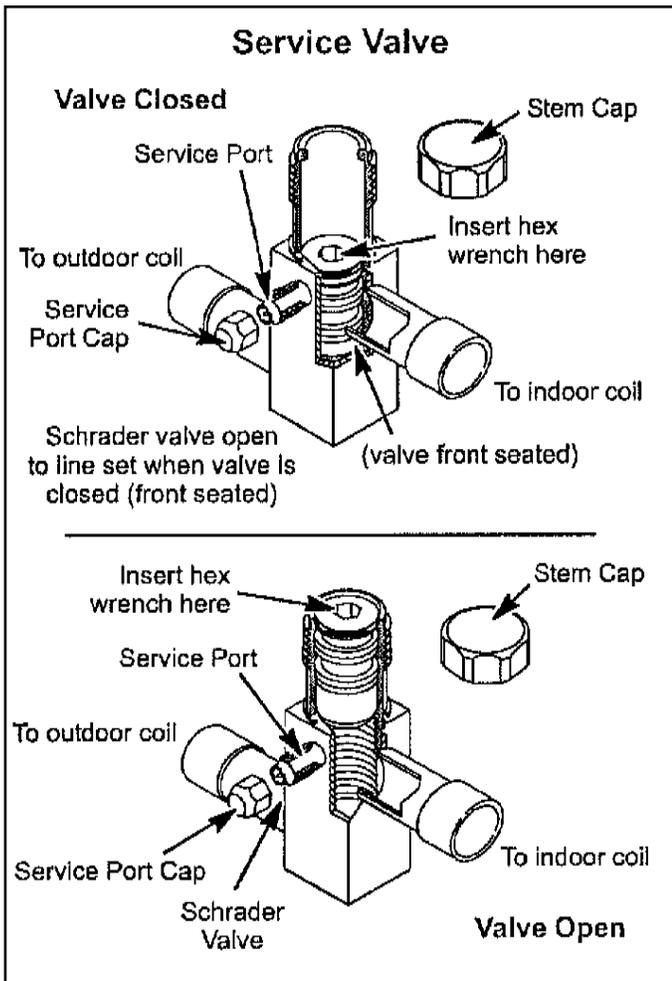
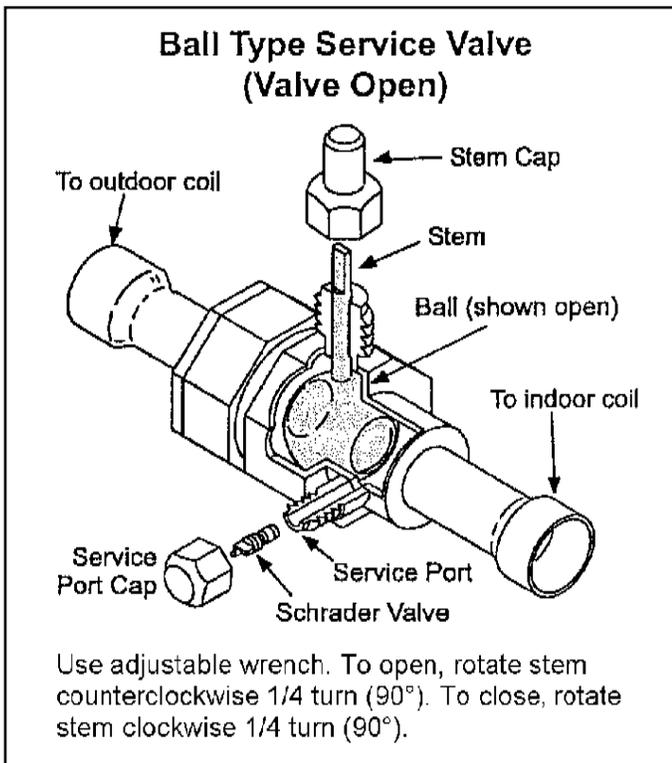

Figure 9.
Figure 10.
To install an expansion valve (see Figure 9):
The liquid line and suction line service valves (Figure 9) and service ports are used for leak testing, evacuation, charging, and checking charge.
Suction line (ball type) service valves function the same way as the other valves; the difference is in the construction (Figure 10).
1. Connect the manifold gauge set to the service valve ports as follows (Figure 9 or Figure 10):